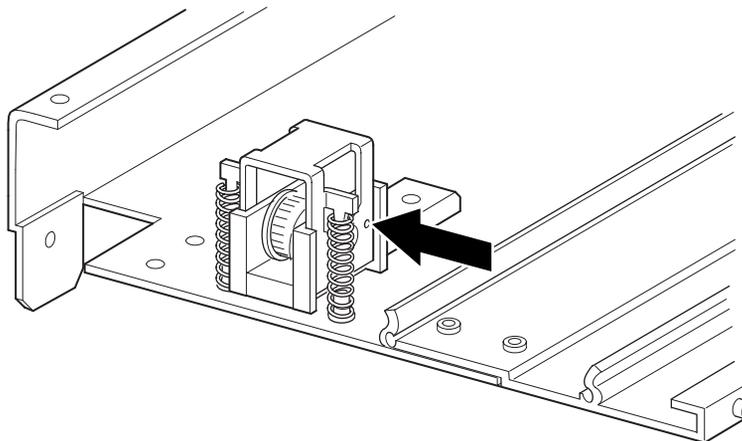

Figure 19: Tensioner ramp/idler pulley zero point
3. Insert a large paper clip through the holes on the idler pulley base to set the idler pulley tension to zero. (See Figure 19 on page 40.)
2. Insert a large paper clip through the holes. This sets the idler pulley to the zero position (see Figure 19).